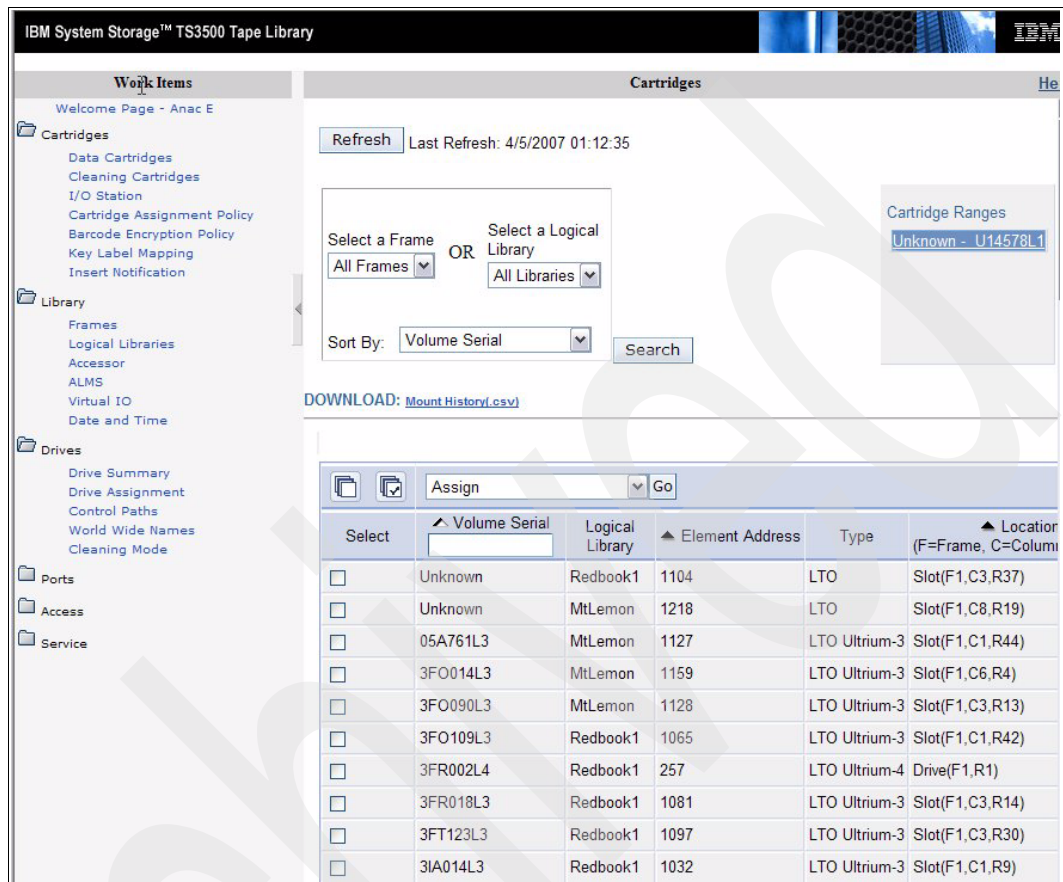

Figure 2-54 Assign Data Cartridge menu
1. To begin, navigate **Cartridges** → **Data Cartridges** (see Figure 2-54). Select the frame or logical library, select one or more cartridges to assign, and select **Assign** in the pull-down, and click **Go**.